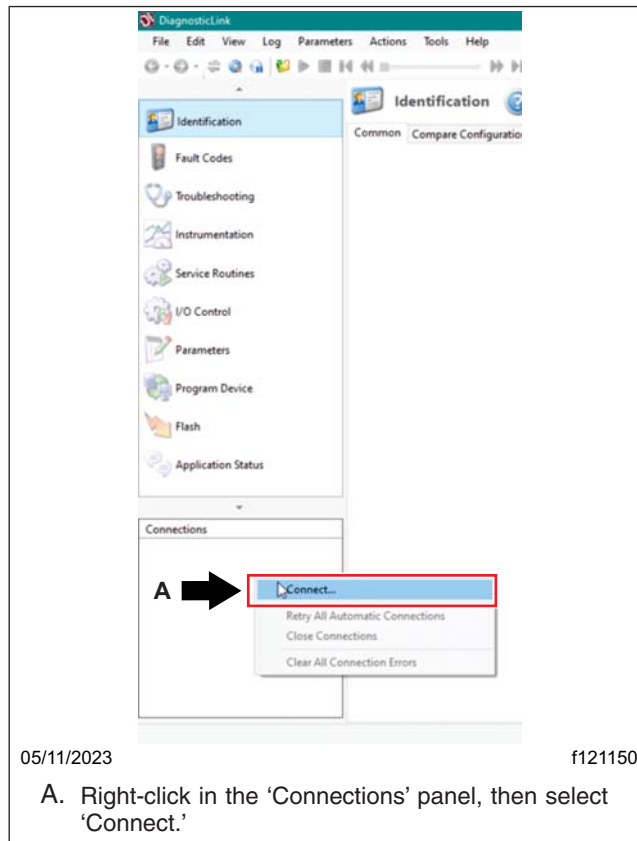

Fig. 6, Establishing Manual Connection
- To manually establish the connection with CTP01T, right-click in the 'Connections' panel, and select 'Connect.' See Fig. 6.